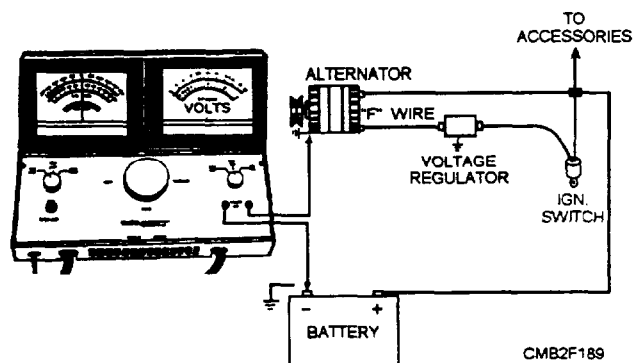

Figure 2-36.—Typical ground circuit resistance test setup.
**GROUND CIRCUIT RESISTANCE TEST.**—With the ground circuit resistance test the voltmeter leads are placed across the negative battery terminal and alternator housing (fig. 2-36).